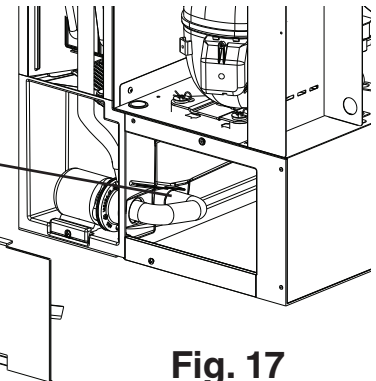

Fig. 17
- 10) Move the control switch to the "OFF" position, then remove the base cover and disconnect one end of the pump tubing to drain the water tank. See Fig. 17.
- 3) Remove the base cover, then disconnect one end of the pump tubing to drain the water tank. See Fig. 17. After the water tank has drained, reconnect the pump tubing.